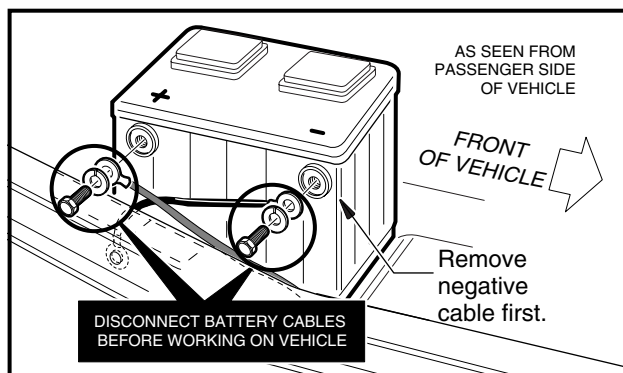

Figure 1 Battery Cable Removal
- **Disconnect battery cables, negative (–) cable first (Figure 1).**